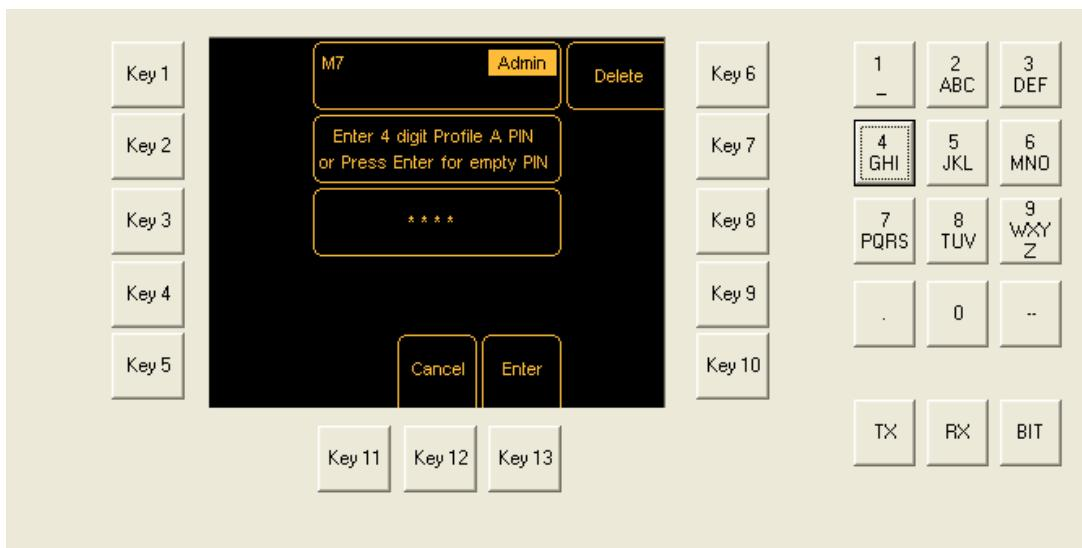

**Fig 3-49 Security Screen (Example B)**
(4) Ensure the Security screen is displayed. Use *Key 9 – Up* and *Key 10 – Down* to highlight one of the three functions. Use *Key 11 – A*, *Key 12 – B* and *Key 13 – Z* to toggle between restricted (✗) and no restriction (✓).
(5) When the Security screen is set up as required (Fig 3-49) press *Key 7 – Enable Profile A*. The Profile A Security screen (Fig 3-50) is displayed.